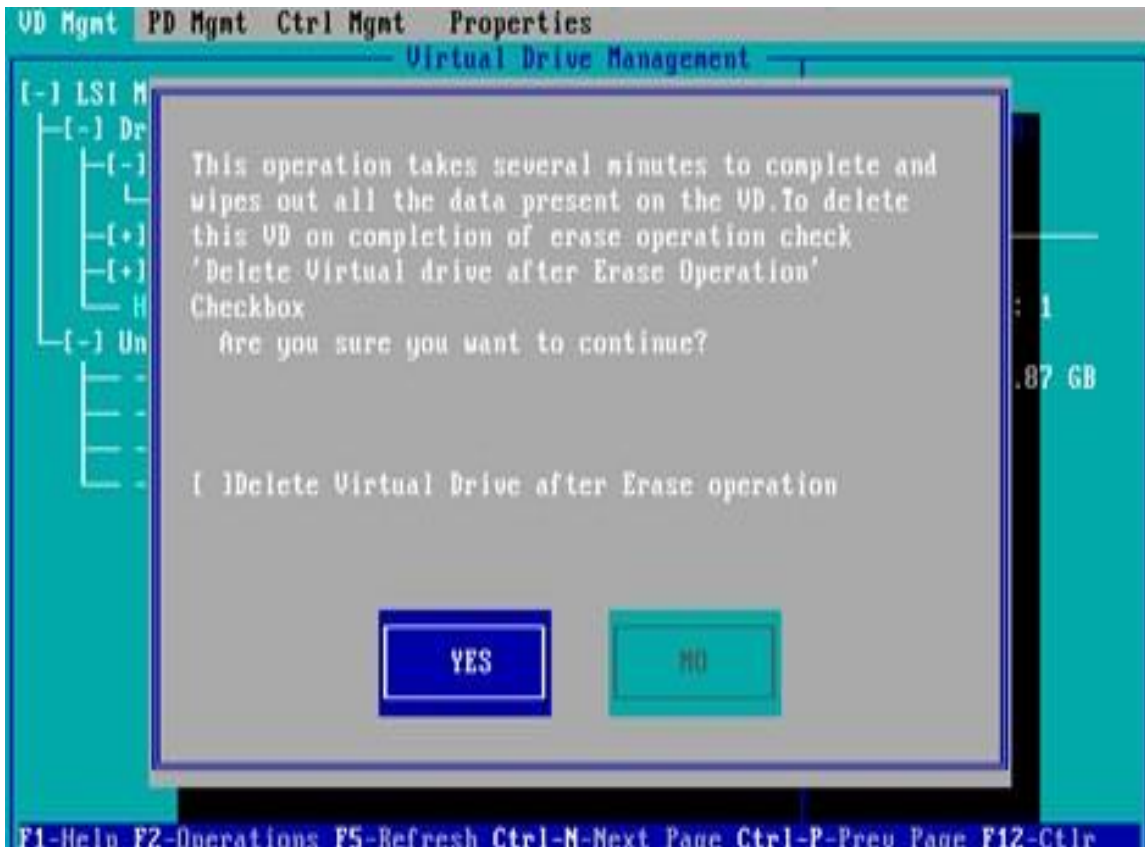

Figure 6-108
- c) Enter the interface shown in figure 6-108, select Yes, and press enter to complete the operation of erasing logical disk data.